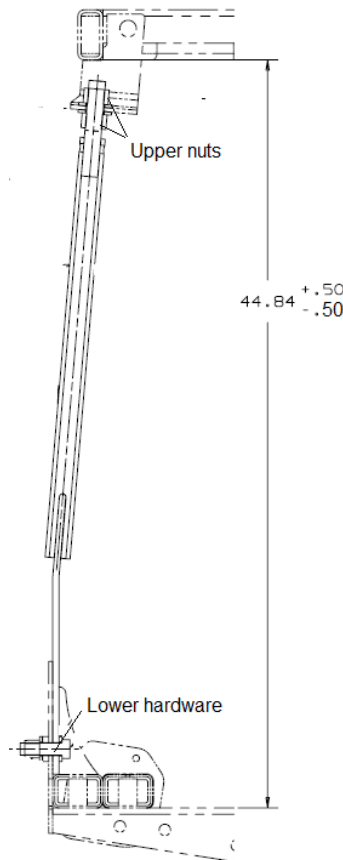

Figure 18: Strut Tensioning
32. Support strut Installation – Reference figure 18: